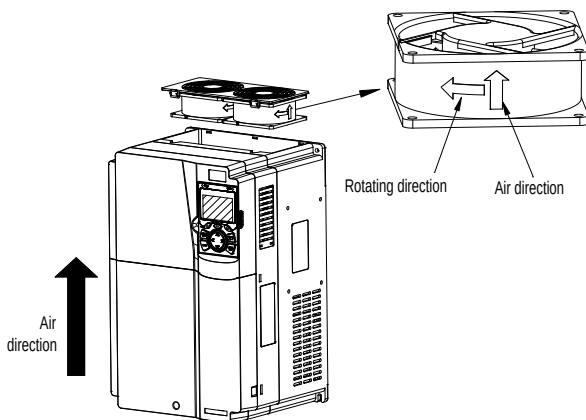

Figure 8-1 Fan maintenance for 011P and higher models
5. Install a new fan in the VFD in the reverse steps. Assemble the VFD. Ensure that the air direction of the fan is consistent with that of the VFD, as shown in Figure 8-1.